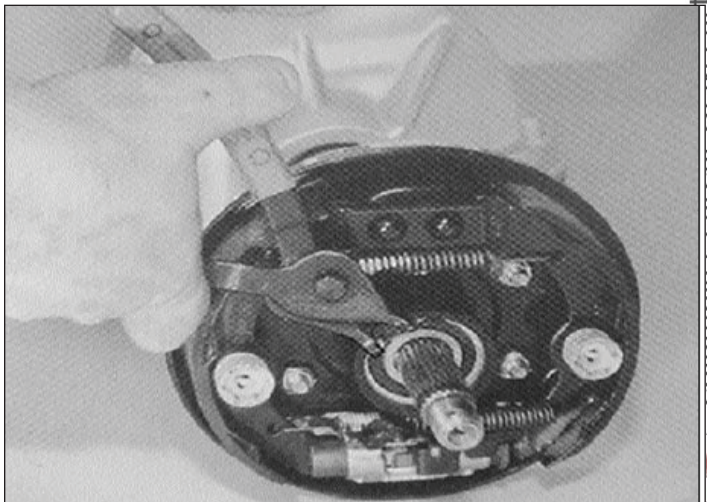

Figure 6-21. Installing Outer Snap Ring.
3. Install outer snap ring (25) in each tube (Figure 6-21).
4. Remove fill plug (19) in cover plate (18). Fill axle assembly with 12 ounces (360 ml) of Light Weight Gear Lubricant, SAE 30.